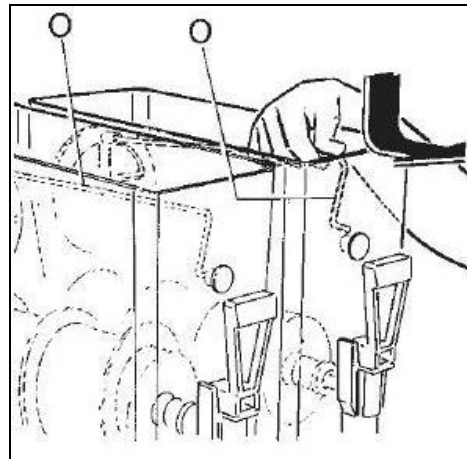

Fig. 11
- **R**eassemble the upper mixing unit (O) so that its toothed crown is aligned with the lower crown. This will allow the front pin to fit perfectly into its fixed position on the bowl (see figure 11).